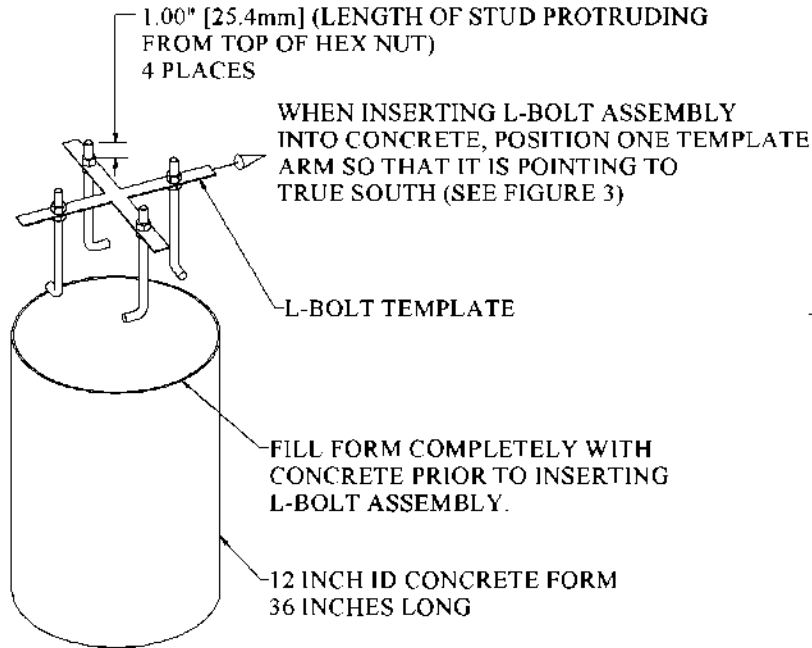

FIGURE 2
3. Referring to Figure 2, prepare the L-Bolt Template Assembly. **(BE SURE TO HAVE FOLLOWED THE IMPORTANT INSTALLATION INSTRUCTION OF THE PREVIOUS STEP BEFORE MOVING TO THIS STEP.)** Now that the direction of True South has been determined and the direction has been spray painted onto the ground, orient one template arm of the L-Bolt Template in the direction of True South when inserting the L-Bolt Assembly into the concrete.